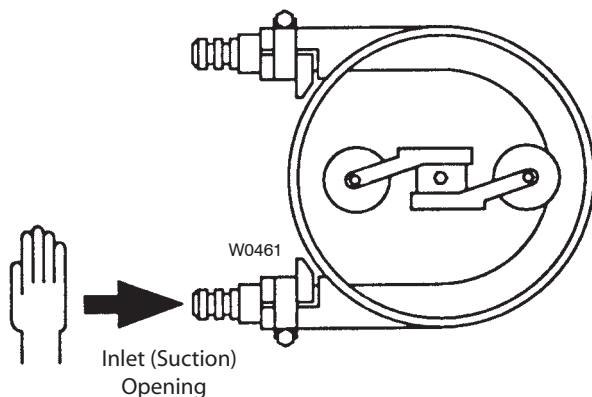

Figure 7
3. See Figure 7. Start pump. Place palm of hand over suction opening and check for vacuum.